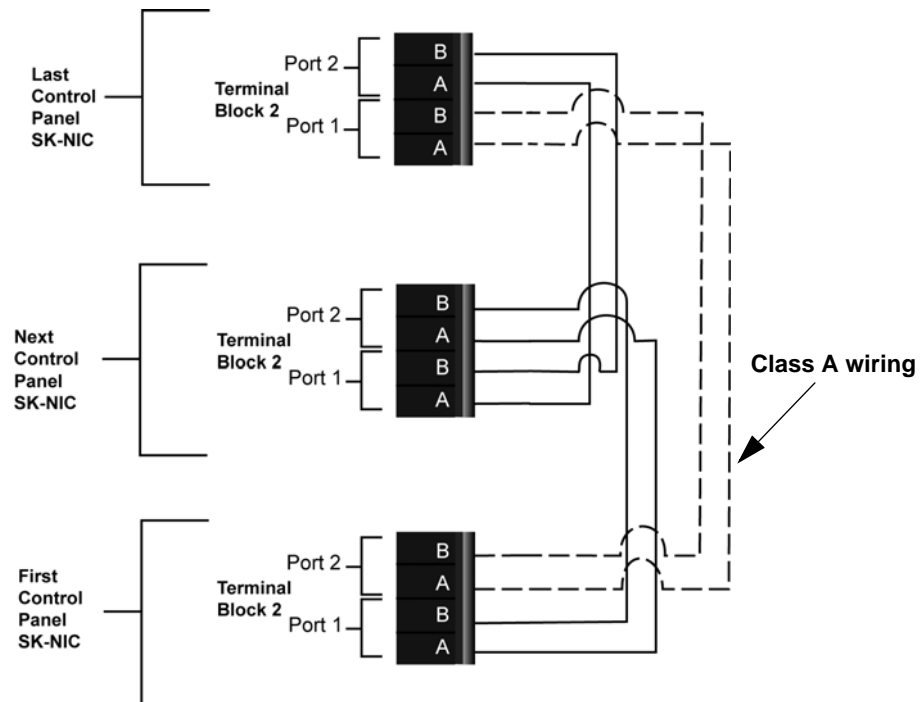
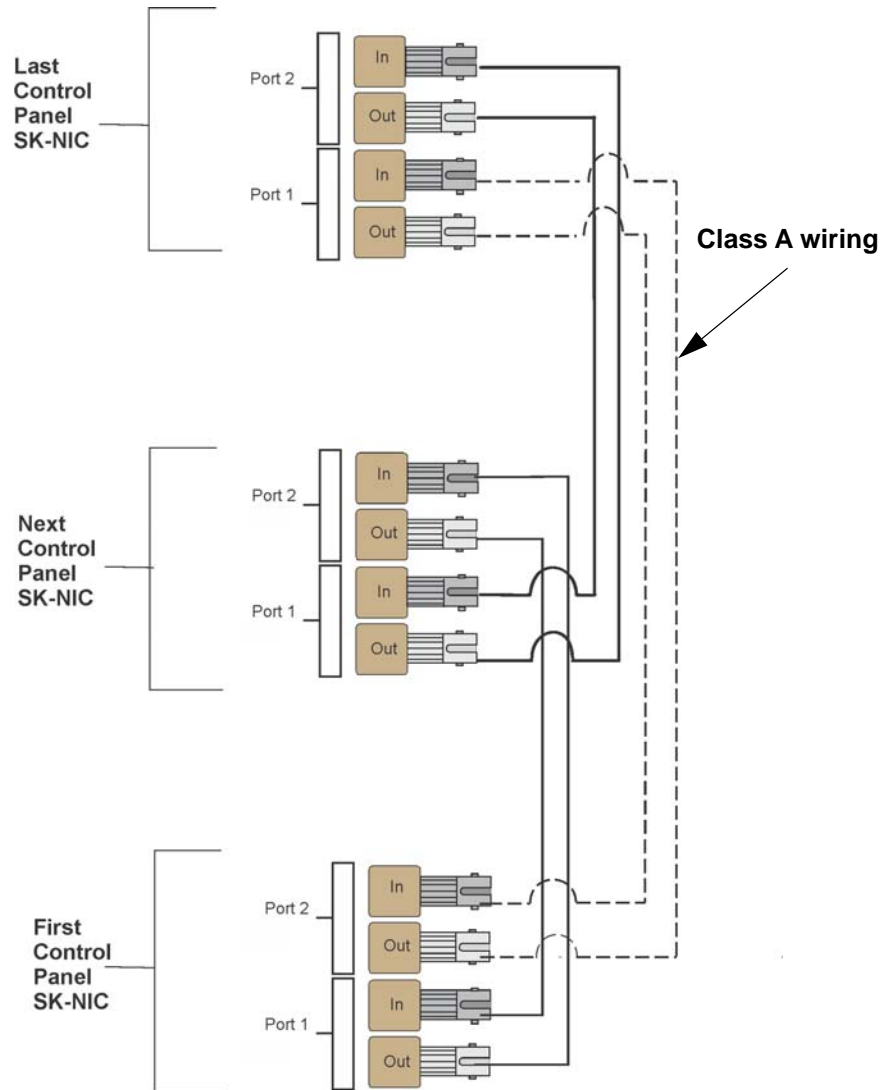
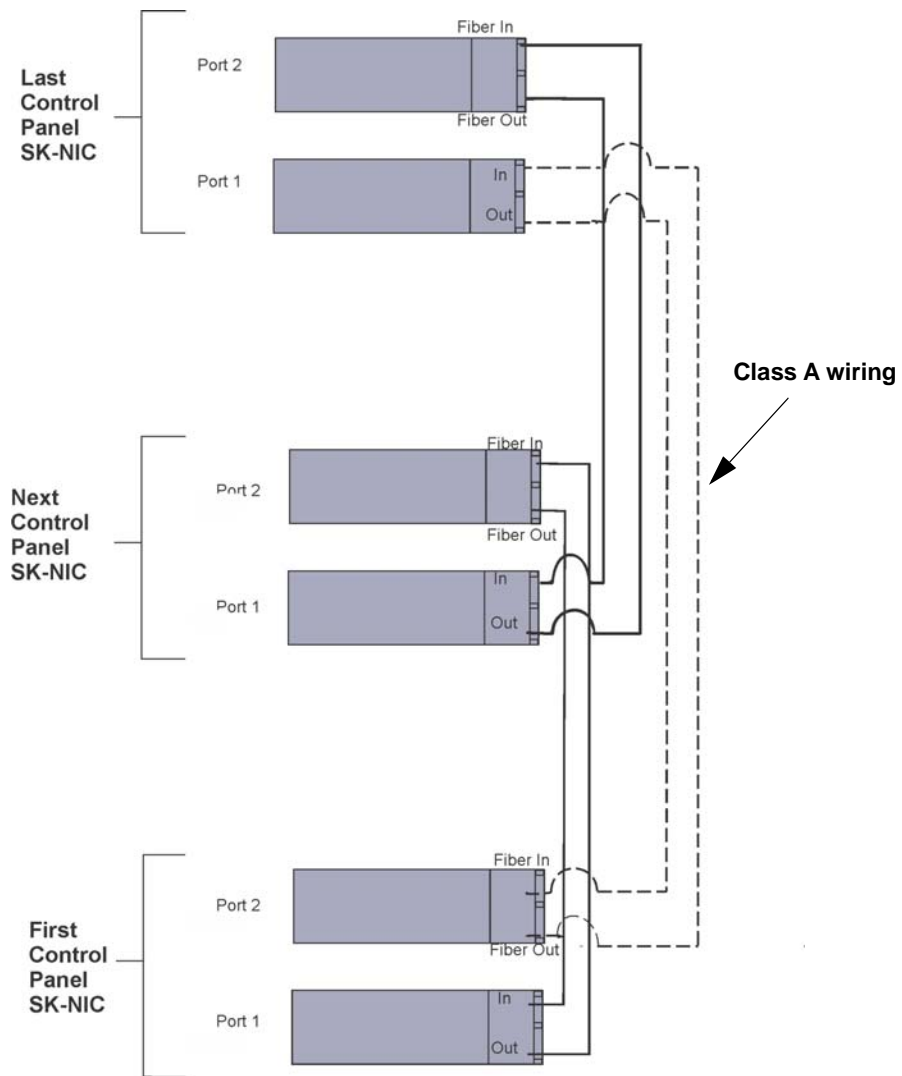
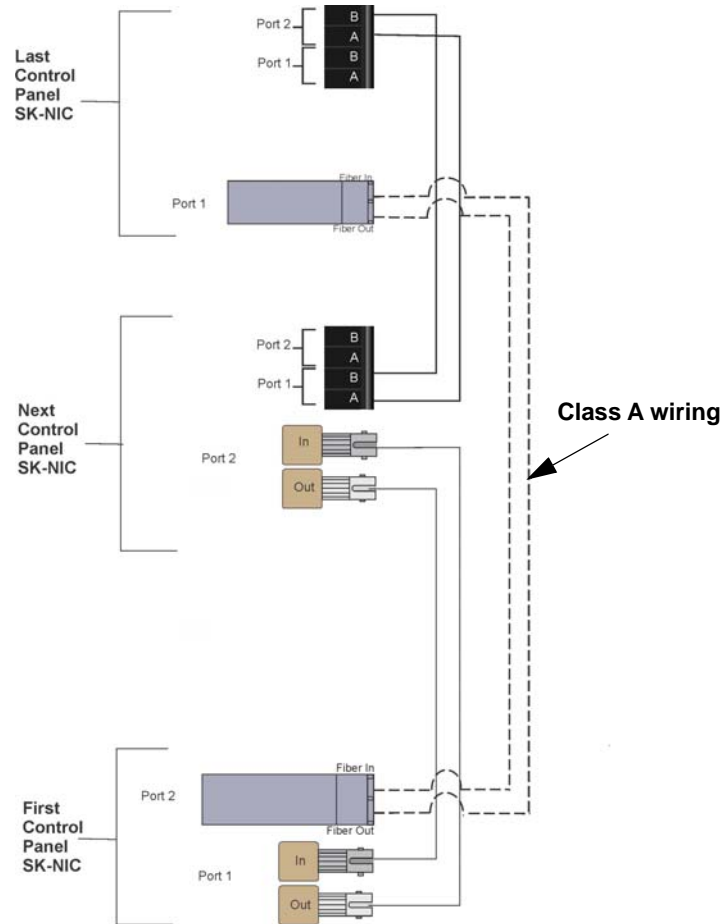

Figure 5.7 Twisted Pair Wiring Configuration
Figure 5.8 Fiber Optic Wiring Example
Figure 5.9 Fiber Optic Wiring Single-Mode Example
Figure 5.10 Twisted Pair and Fiber Optic Combination Wiring Example
5. Based on the type of data medium chosen, run the twisted pair wiring/fiber optic cable to the next SK-NIC using a class B or class A wiring method. A combination of both medium types can be used. See Figure 5.7, Figure 5.8, Figure 5.9, and Figure 5.10 for SK-NIC wiring examples.
Unshielded twisted pair wiring between multiple panels is shown in Figure 5.7. Class A wiring is shown with a dotted line.
Fiber optic cable between multiple panels is shown in Figure 5.8. Class A is shown with a dotted line.
A mixture of fiber optic cable and twisted pair wiring between multiple panels is shown in Figure 5.10. Class A cabling is shown with dotted line.